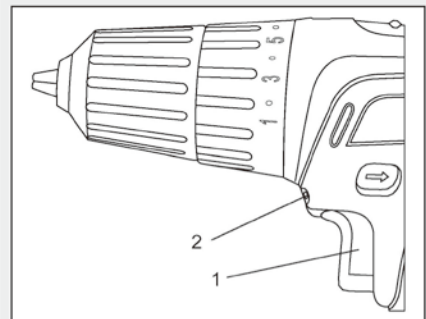

Fig. 9
The LED work light (2) will automatically turn ON when the trigger switch (1) is squeezed (Fig. 9). It will automatically turn OFF approximately 30 seconds after the trigger switch is released.